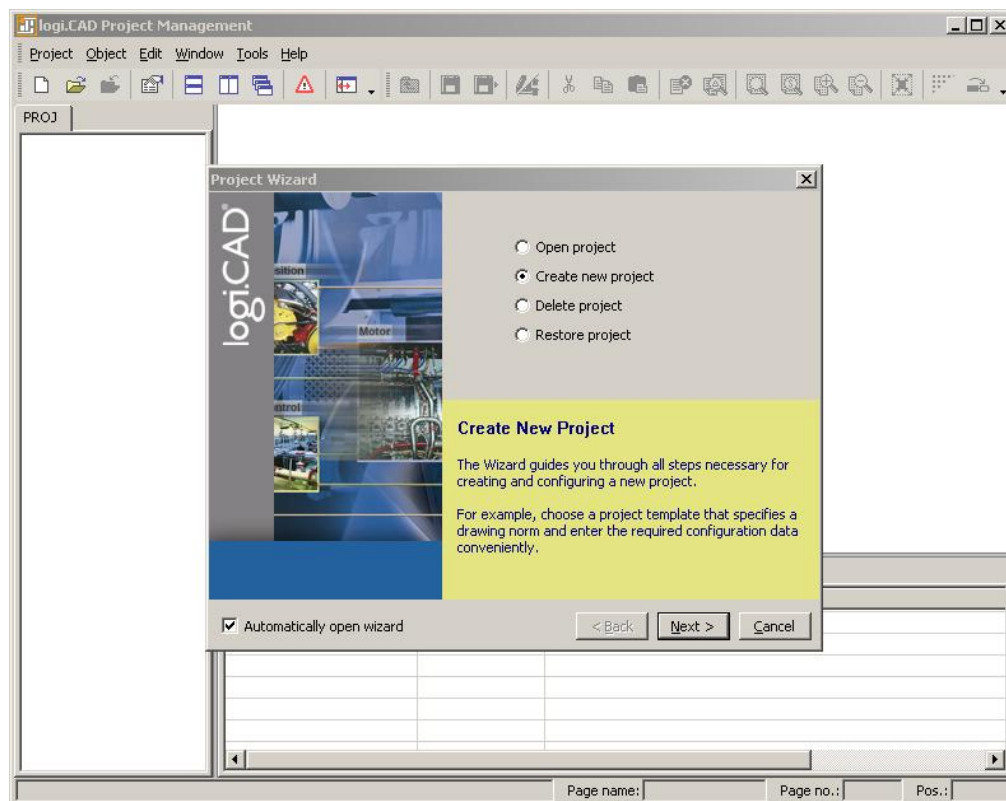

Figure 15: logiCAD project wizard
1. Add L-IOB devices on the **LIOB** tab from the supplied L-IOB templates using the **Add Device(s)** button as shown in Figure 15.
2. The project wizard starts automatically as shown in Figure 15.